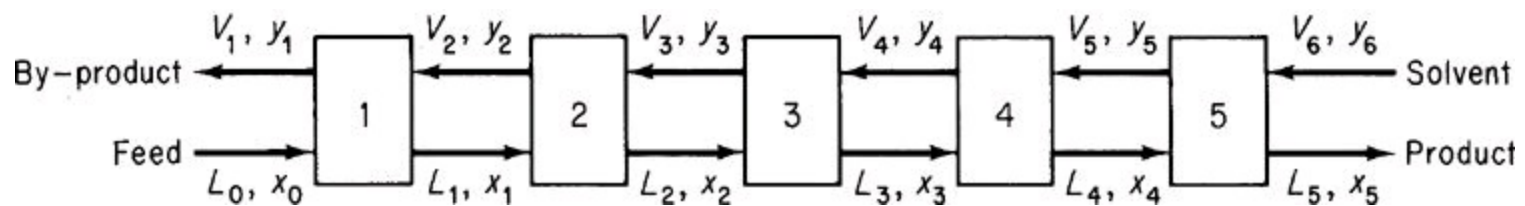

Figure P12.6
12.6. Set up decomposition schemes for the processes shown in Figure P12.6. What additional variables must be specified to make the system determinate if (a) the feed conditions are known, or (b) the product conditions are specified?